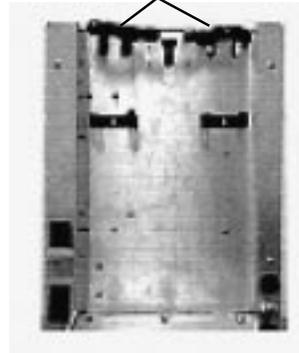

Figure 5 Membrane Bypass Tubing Installed
1. Remove the membrane bypass tubing from the EASYpure RO (see Figure 5). The membrane bypass tubing may be stored inside the EASYpure RO case for easy access when needed for the system sanitization procedure.